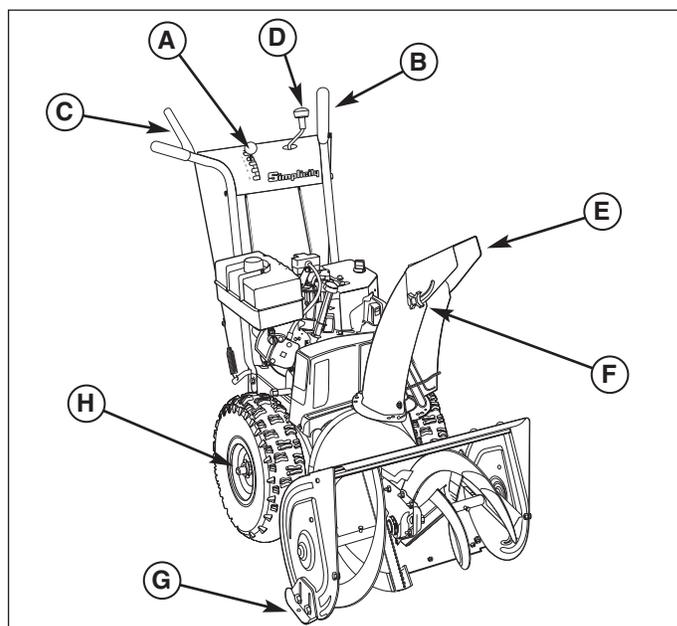

Figure 5. Snowthrower Controls
E. Chute Deflector - Controls the distance snow is thrown. Tilting the Chute Deflector (E, Figure 5) UP provides a higher stream and greater distance, while tilting the deflector DOWN provides a lower stream and less distance.
G. Scraper Bar Height Control - The Skid Shoes (G, Figure 5) control the height the scraper bar (located at the bottom of the auger housing). The scraper bar allows smooth surfaces (such as concrete or asphalt driveways) to be scraped clean of snow. On surfaces such as gravel, the scraper bar should be adjusted higher — so that it will not pick up gravel or debris.
H. Traction Lock Pins - The traction drive to each wheel can be locked and unlocked with the Traction Lock Pins (H, Figure 5) to permit the unit to "free-wheel," allowing easier manual handling and transport of the snowthrower.